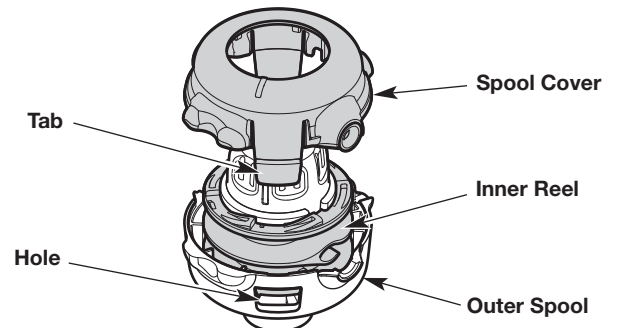

Fig. 30
- c. Gently tilt the screwdriver to unlock the tab from the hole (Fig. 30).
- e. Remove the spool cover (Fig. 30). **DO NOT** attempt to remove any other parts of the cutting head.
- g. Use a clean cloth to clean the inner reel, outer spool and spool cover (Fig. 30).
- h. Align the tabs on the spool cover with the holes on the outer spool (Fig. 30). Push the spool cover onto the outer spool until the tabs securely snap into the holes.